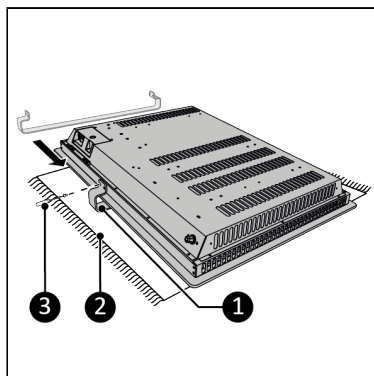

Figure 24.
1. Lay the device down on a soft, steady surface (Figure 24, pos. 2).
3. Carefully slide the towel rail (Figure 24, pos. 1) under the device.
4. Install the towel rail on the backside of the device using a Phillips screwdriver (Figure 24, pos. 3).